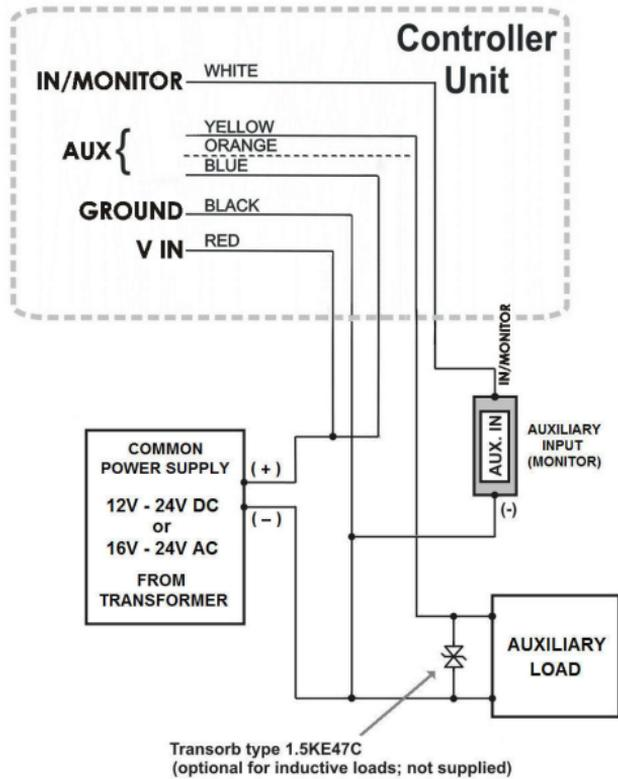

Figure 4: Wiring Diagram for Auxiliary Input & Output
- Wiring for Auxiliary Input & Output (Figure 4)
Some installation-specific features are exercised, as required by the system. These features are implemented as shown in Figures 4 and 5.